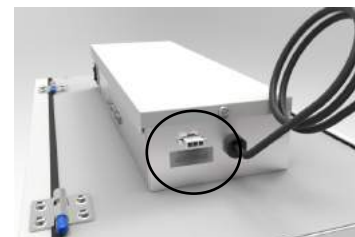

Figure 1
**If the FAA is installed so that the homeowner can turn off the FAA, we recommend installing a motorized damper between the FAA's supply air and the forced air system's return air duct that will close when the FAA is not operating. To install a damper accessory to the product, locate the auxiliary connector on the side of the electrical box. See Figure 1. Using the included wire harness, connect the damper accessory to the product.**